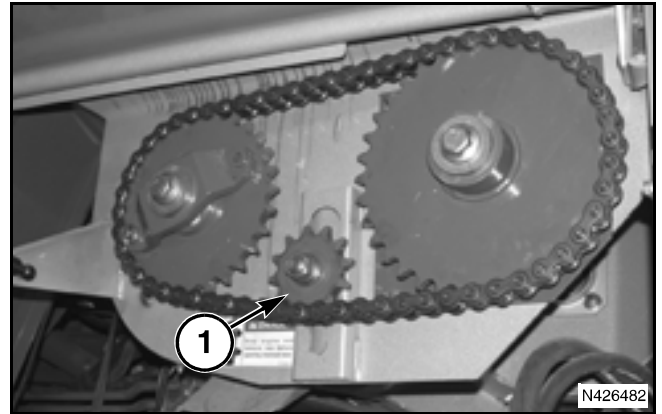

FIG. 37
FIG. 37: The grain tank angled auger drive chain is adjusted by moving the idler (1). The drive chain must have 5.1 to 7.6 mm (0.200 to 0.300 in) slack at the tightest point at the center of the longest span. Do not over tighten chain. Over tightening can cause excessive wear to the chain and sprockets.